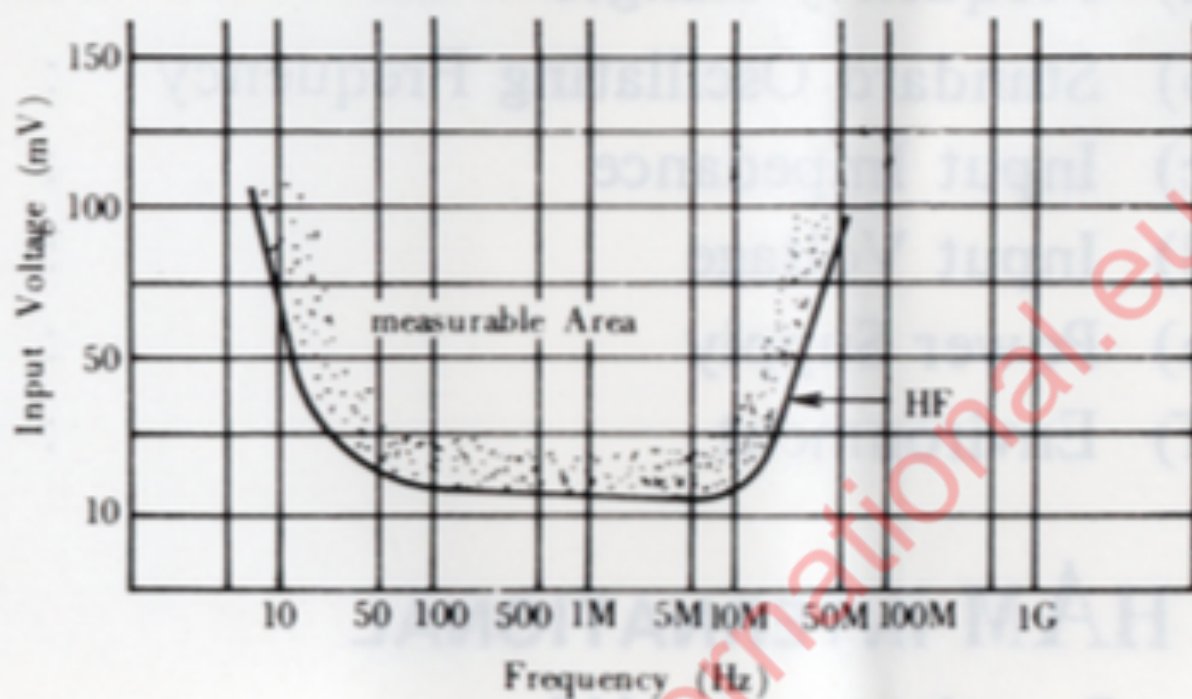

Fig.3
3. Too highinput voltage of measured frequency may burn IC (See Fig.3).
4. Too low input voltage of measured frequency may cause miscount (See Fig.3).